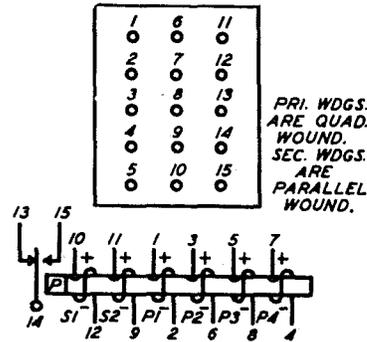

FIG. 24-WINDING AND SPRING TERMINAL ARRANGEMENT AS VIEWED FROM THE REAR (TERMINAL SIDE)-209 TYPE RELAYS
2.41 Facing the terminal side of the relay terminals are numbered as shown in Figs. 24, 25, 26 and 27. On the 209 type relay, numbers 1, 6 and 11, shown on Fig. 24 are stamped in the terminal block. The other terminals are numbered consecutively from top to bottom in each row. Terminal numbers of the 215, 218, 228 and 255 type relays are similarly stamped in the terminal block. Connections between terminals and contact springs and coil windings with which they are associated are shown on the relay conventions on the circuit drawing.